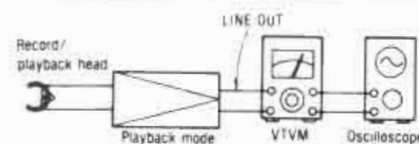

Fig. 3
1. Make connections as shown in fig. 3.